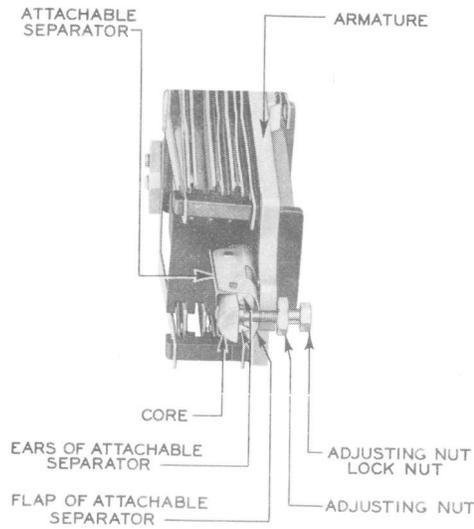

Fig. 6—UB-Type Relay Equipped With Attachable Separator and Adjusting Nut Locknut
2.10 Application of D-178259 and D-178260 Attachable Separators: Fig. 6